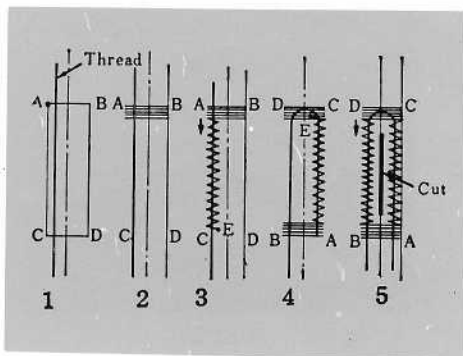

Fig. 64
4. Place material under the foot so that when you start sewing you will sew from position A shown in Fig. 64 - #1. Lower the foot on to the material. Press the zig zag indicator lever down until the zig zag indicator is behind #3 on the zig zag indicator window (See Page 12 - Fig. 33) Then sew between A & B shown in Fig. 64 - #2, and make 4 or 5 stitches.
6. Sew from A to C shown in Fig. 64 - #3. With the needle half way through the material on the left side of the zig zag stitch (Fig. 64 - #3E), using the needle as a pivot, turn the material in the opposite direction.
7. Lower the fabric feeders as in step #3. Turn the fly wheel toward you by hand until the needle is at its highest position. Press the zig zag regulating lever down until the indicator is behind #3. (See step #4). Sew from C to D as shown in Fig. 64 - #4. Release zig zag regulating lever so that the zig zag indicator returns to the position between 1 and 2.
8. Raise fabric feeders and sew between D and B as shown in Fig. 64 - #5. **CAUTION:** Sew between D and B carefully, being carefull not to overlap the two sides of the buttonhole.
9. With the ripper, cut the cloth between the two sides of the buttonhole. (Fig. 64 - #5)